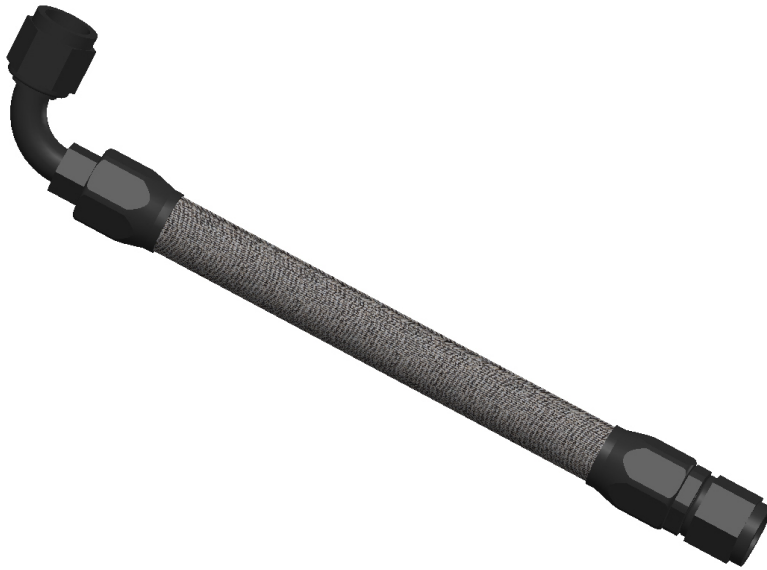

FIGURE 1-12
21. Now assemble the Siphon transfer hose. Use the figure below for reference. **FIGURE 1-12**